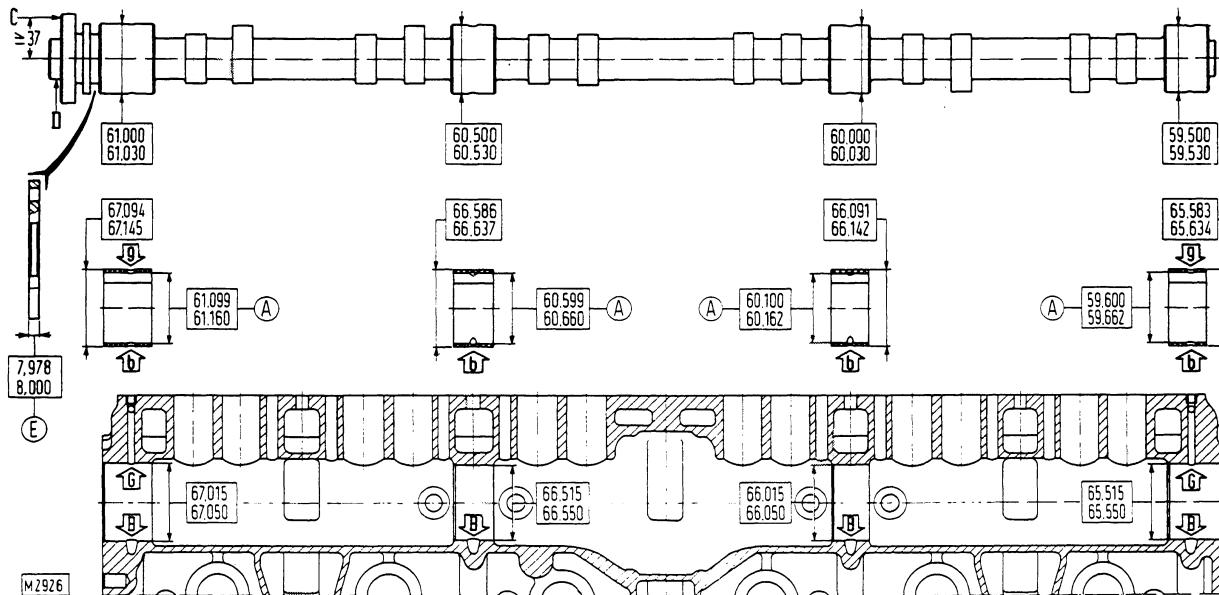

Fig. 19 - Camshaft, bearing and housing dimensions.
Measure clearance between camshaft bearings and journals using a suitable inside micrometer. For specified dimensions, see fig. 19 and section 11.
- Place the camshaft with two end journals over vee blocks and rest the stylus of a dial gauge on the flange face at approximately 37 mm or 1.5 in from the centerline ( $C$ , fig. 19).
Check bearing dimensions (see fig. 19).
- Position bearings so that retaining screws (4, fig. 18) are lined up with the associated passage holes, and that oil holes (b and g, fig. 19) line up with the corresponding oil supply holes (B and G) in the cylinder block.